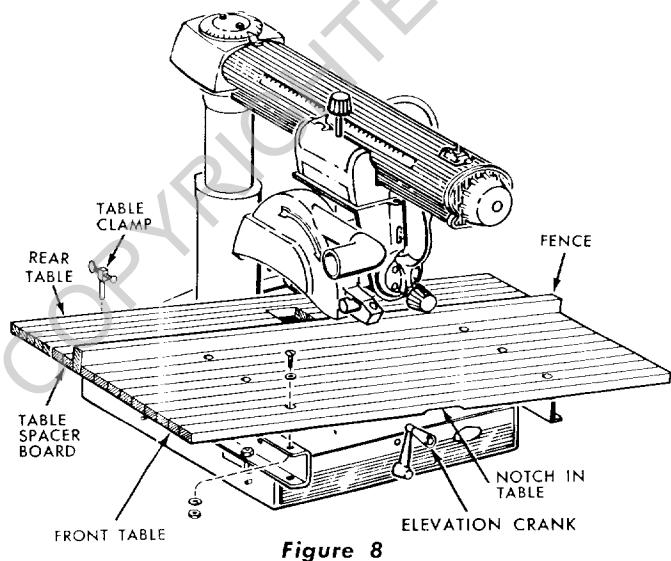

Figure 8
The saw should be placed on a suitable sturdy work bench and the base positioned so that the elevation crank (figure 8) is free to rotate. The base of the saw must be mounted flush to a flat surface on the work bench to prevent distortion of the saw base. The nuts, screws, and washers which attach the wooden shipping skids to the saw base may be used to secure the saw base to the work bench.
2. Turn elevation crank (figure 8) to raise saw blade clear of the saw base.
3. Place front table on channels with notch in table forward and down as shown in Figure 8.
4. Align holes in front table with three forward mounting holes in channels. See Figure 8.